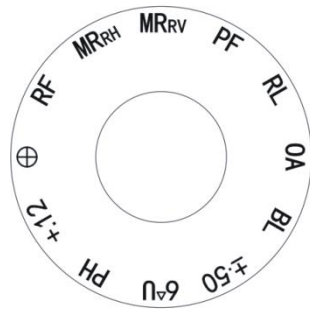
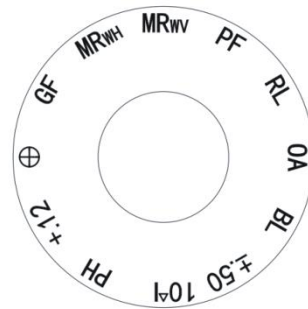

Fig.15
Fig.16
Turn auxiliary lens knob ②, the required symbol is to be set at 12 o'clock position. Then Corresponding referenced lens will appear in the examination aperture ⑬ (Fig.15 and Fig.16).